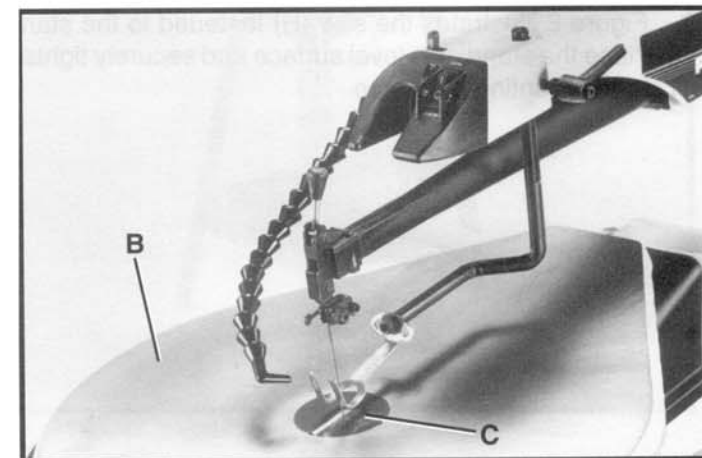

Fig. 12
2. Fig. 12 illustrates the table (B) in the 90 degree position.
1. Assemble the table insert (C) Fig. 12, to opening in the center of the table (B) as shown.